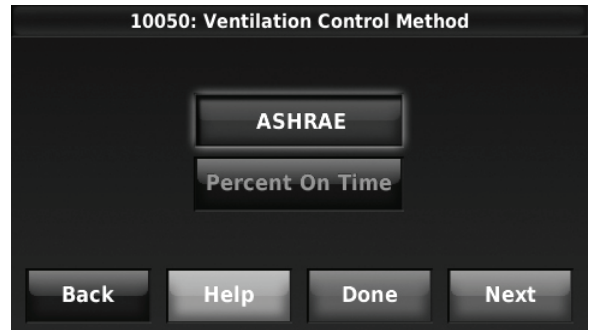

Fig. 255.
3. Select the Ventilation Control Method. See “Ventilation Control Methods (ISU 10050)” on page 112 for more information. See Fig. 255.